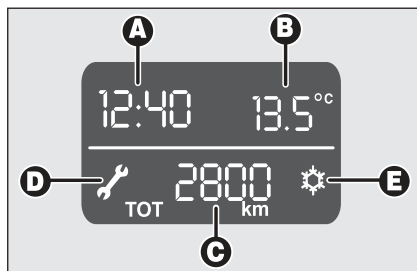

fig. 22
- ☐ Clock **A-fig. 22**;
- ☐ Scheduled servicing (symbol  **D-fig. 22**).
- ☐ Symbol of possible presence of ice on the road (symbol  **E-fig. 22**).